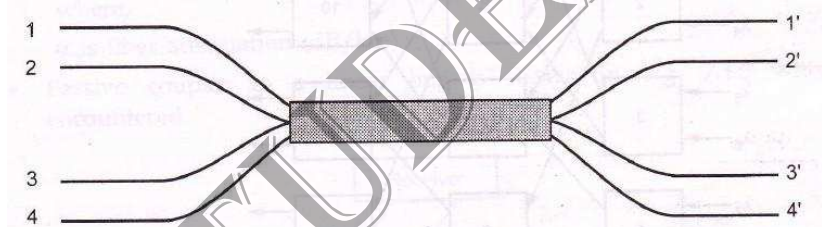

Fig. 7.1.3 4 x 4 fused fiber star coupler
- x The fiber fusion technique is popularly used for producing N x N star coupler. Fig. 7.1.3 shows a 4 x 4 fused star coupler.